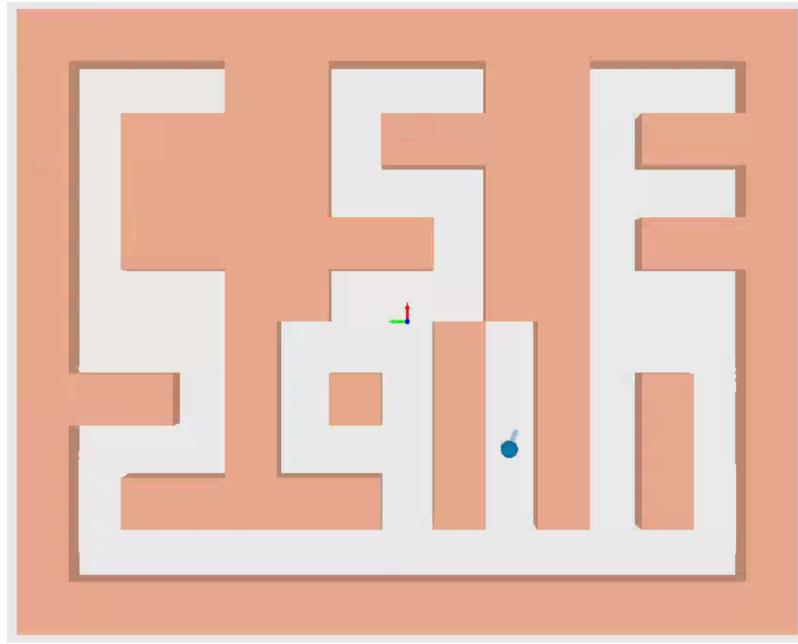

Figure 5.2: PointMaze.
2. In this part, you need to solve the PointMaze task with PPO. As shown in Fig. 5.2, a blue point, with an arrow indicating its direction, is moving in a “CSE291D maze”, where the goal is the origin ( $x = 0, y = 0$ ). In each episode, the point starts from a random location and has up to 1,000 steps to reach the goal. If the length of an episode is  $l$ , you will get a score of  $1000 - l$  for this episode.